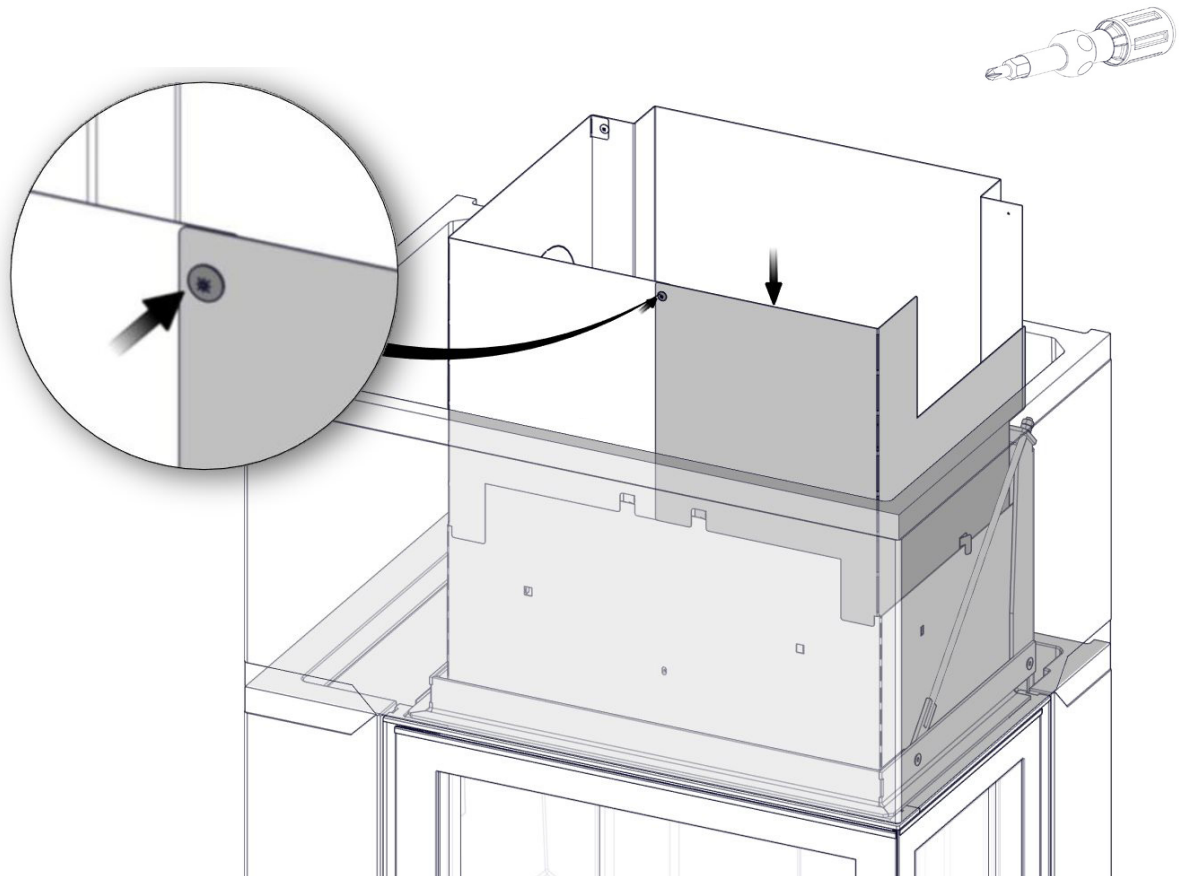

FIG 17
FIG 17 a
FIG 17 b Davos A High\_N-29A
FIG 17 c Davos A High\_N-29A
**FIG 17 d** Davos A High\_N-29A